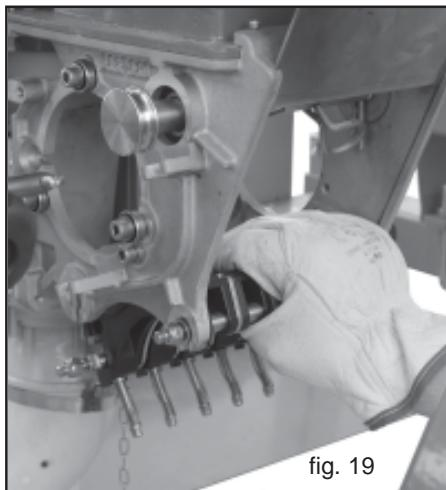
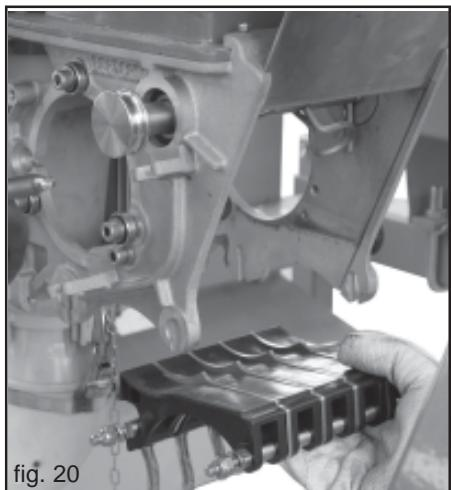

fig. 19
fig. 20
- 3) Remove the back part (Fig. 19) of the feeler pin unit, first, followed by the front part (Fig. 20).